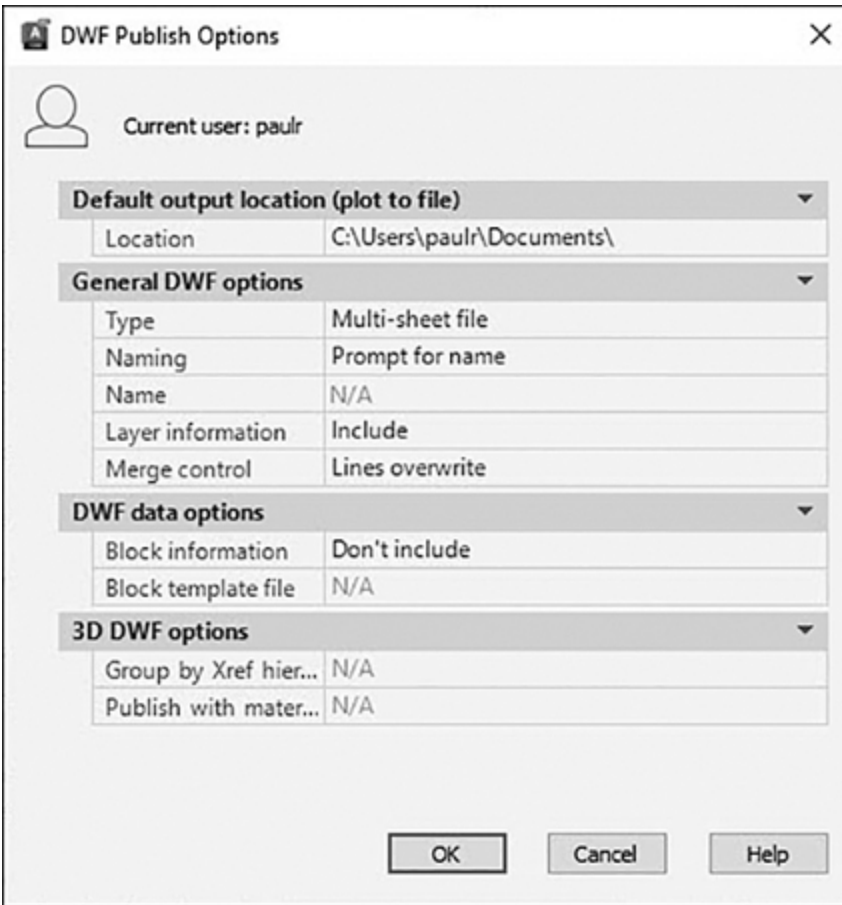

Figure 15-37
The **Publish Options...** button displays the **Publish Options** dialog box shown in Figure 15-37 and enables you to view and modify settings for the DWF/PDF output.
- 5** Choose the **Publish Options...** button to display the **Publish Options** dialog box (see Figure 15-37).